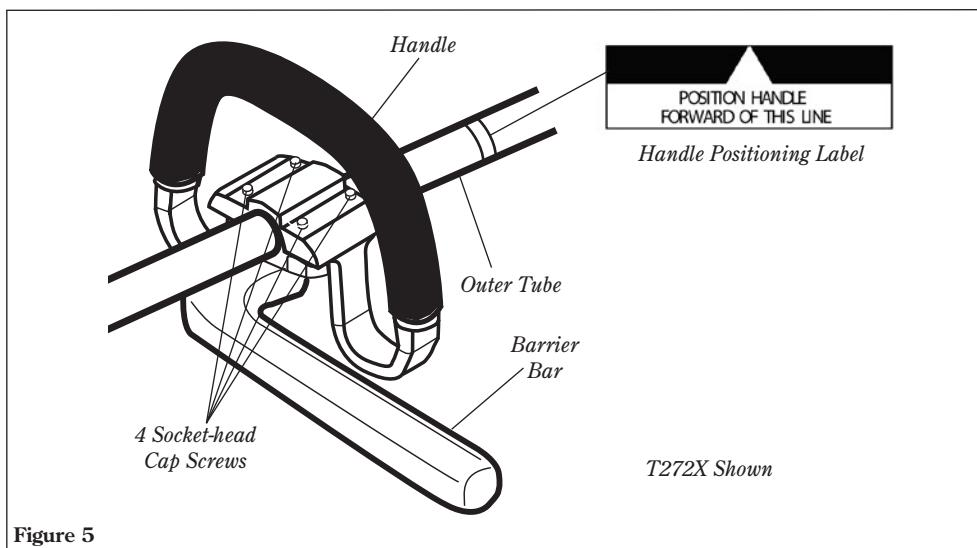

Figure 5
1. Loosen the 4 socket-head cap screws on the handle. See Figure 5.